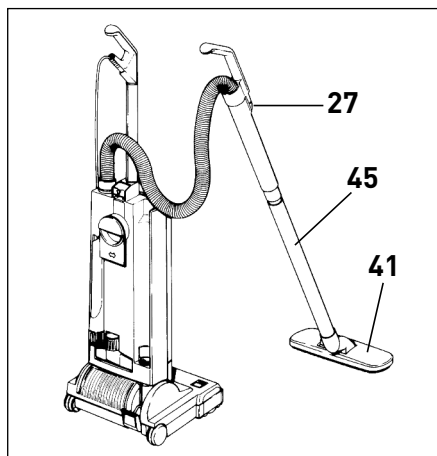

Figure 6
To vacuum walls, under beds, or higher-reach areas, etc., the SEBO ESSENTIAL G can be fitted with an additional straight tube (45) and the wall and floor brush (41). The machine will then perform as a canister vacuum (**as shown in figure 6**).